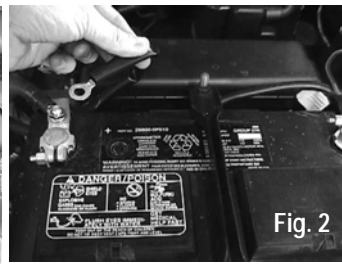

Fig. 2
2. Temporarily remove the battery hold down bracket, slide the battery towards the motor (Fig. 2).
4. Route the trailer harness fuse holder wiring over to the positive side of the battery, between the battery and the vehicle's fuse box. Attach the trailer harness fuse holder ring terminal to the positive battery post (Fig. 2).